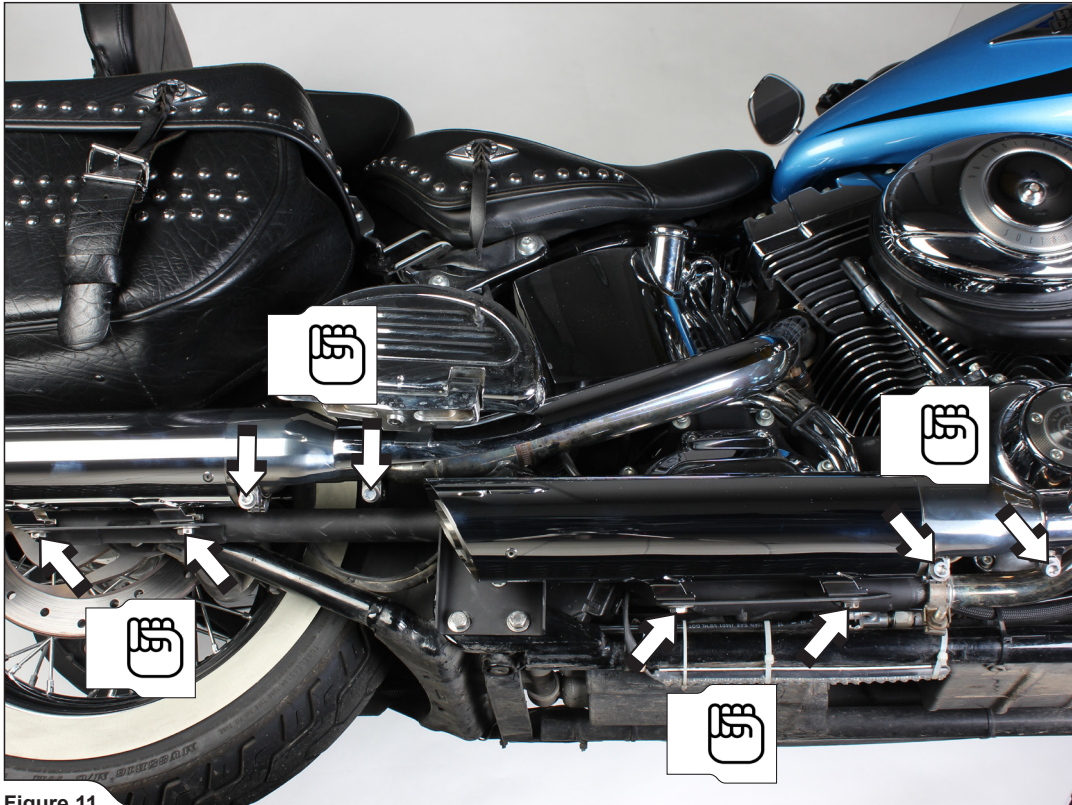

Figure 11
- Slide the assembled mufflers onto the original header. Hand tighten the mufflers' bracket screws and clamps (Figure 11).